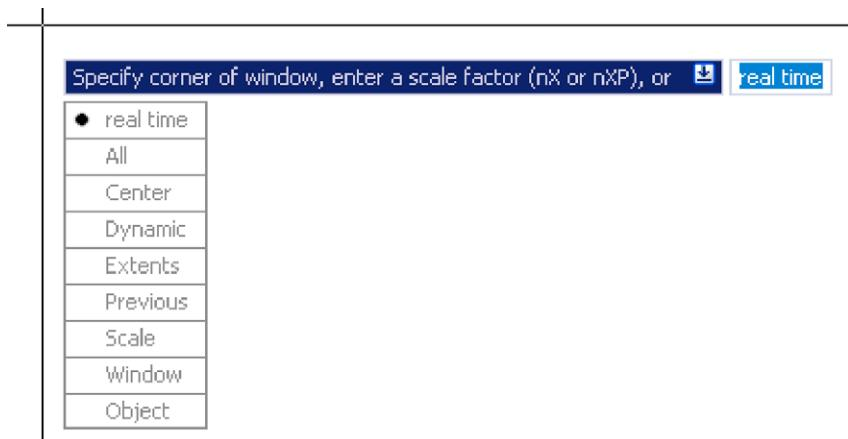

Fig. 3.34 Dynamic Input – second example – **Zoom** – the popup menu appearing with a *right-click* and pressing the **down** keyboard button
2. *Right-click* and press the down button of the keyboard. The popup list (Fig. 3.34) appears from which a **Zoom** prompt can be selected.